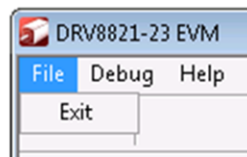

Figure 30. File Menu
- File - The File menu contains the option Exit as shown in Figure 30 below.